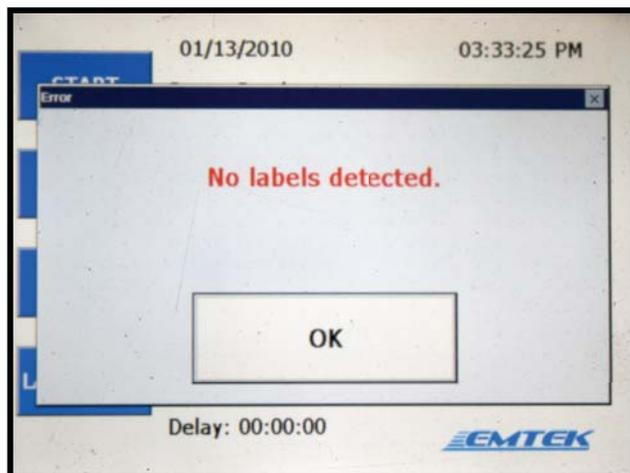

Fig 7.7.3
**No Labels Detected:** Should the unit attempt to print or should the user attempt to advance a label/paper and the unit is out of labels/paper, a warning screen will appear notifying the user (see Fig 7.7.3).